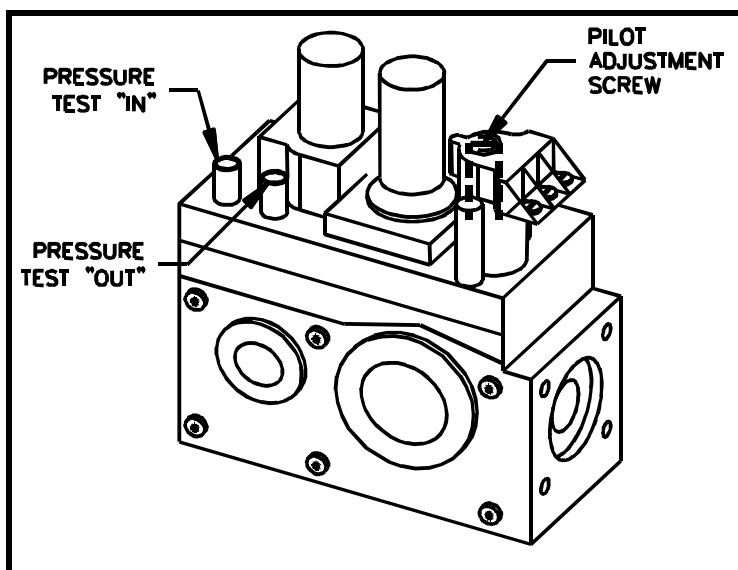

Figure 19: Gas Pressure Check at Gas Valve
5. To check gas pressure at valve, turn captured screw counter clockwise 2 or 3 turns and then place tubing to pressure gauge over test point. Refer to Figure 19: Gas Pressure Check at Gas Valve. After taking pressure reading, be sure and turn captured screw clockwise firmly to re-seal. Do not over torque. Check for gas leaks.